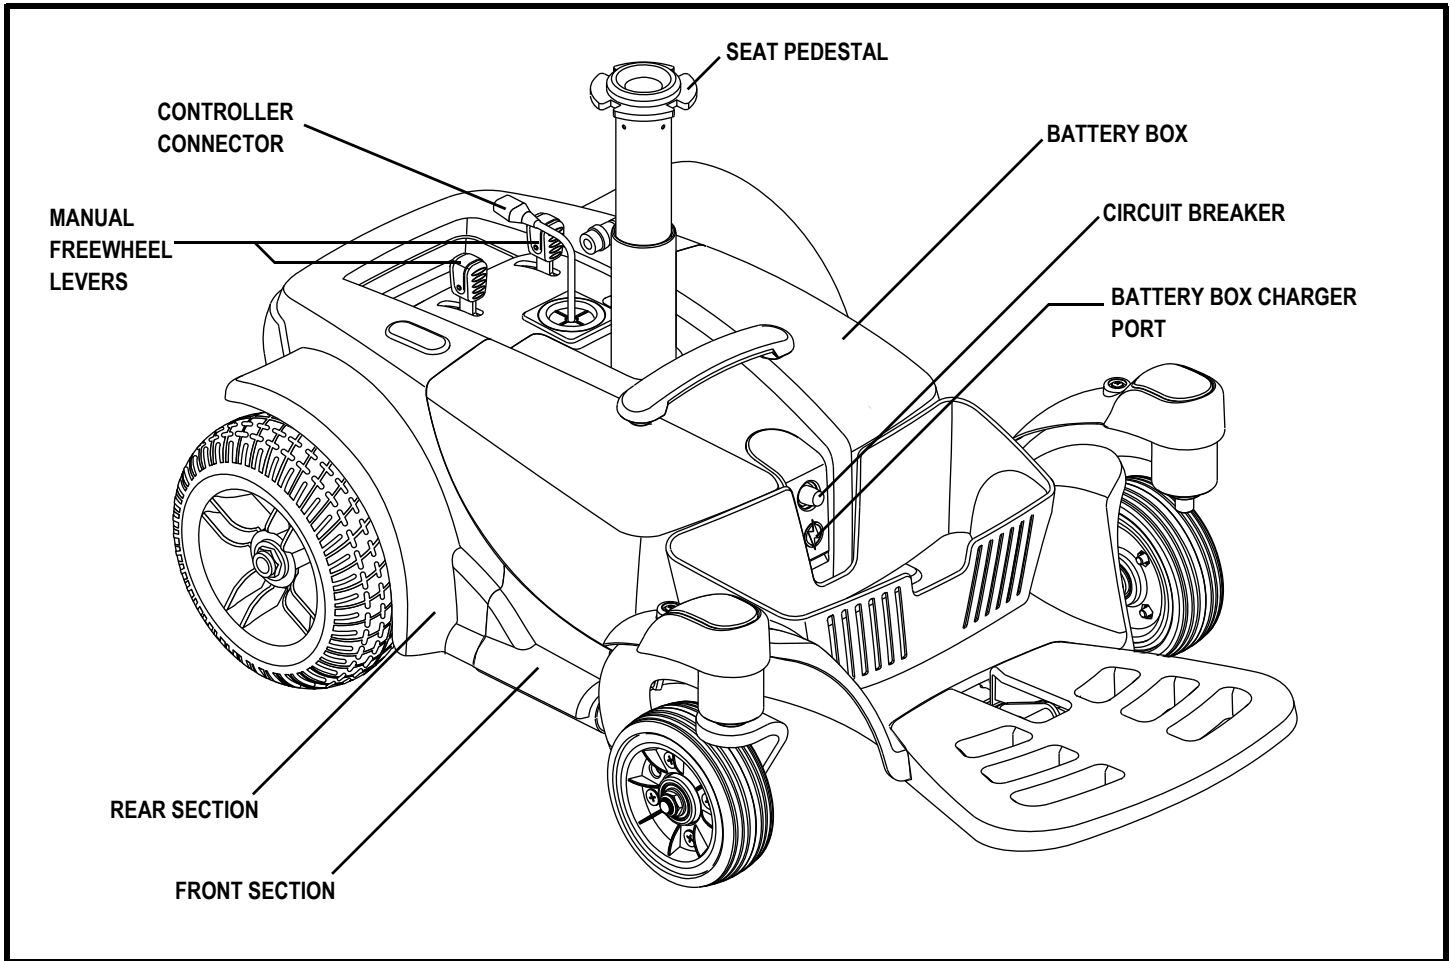

Figure 6. The Go-Chair Power Base
The electrical components are located on the power base. The main circuit breaker is located on the front of the battery box. The controller connector is located on the back of the power base. See figure 6.
7. Install the seat and plug the controller into the power base. See figure 6.